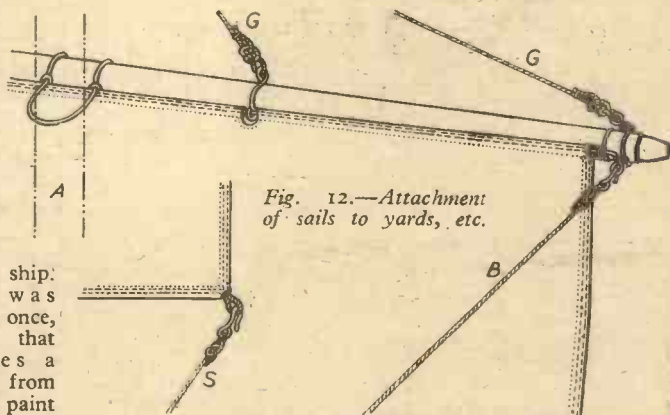

Fig. 12.—Attachment of sails to yards, etc.
**T**HE fore and main masts only are stepped; the mizzen can be all in one piece and the fore and main topmasts can be single lengths. All masts, lower and upper, mizzen and bowsprit, should be tapered slightly as shown in Fig. 3 (last month's instalment). The diameters at the lower ends should be such that they look just right to accord with the size of the model. If the 24in. model is being made, the diameter of the main mast at the foot should be  $\frac{5}{16}$ in. full, or  $\frac{11}{32}$ in. tapering to a full  $\frac{1}{4}$ in. The foremast can be  $\frac{5}{16}$ in. tapering to  $\frac{1}{4}$ in. and the mizzen  $\frac{5}{16}$ in. base, tapering to  $\frac{1}{4}$ in. The main topmast should be  $\frac{1}{4}$ in. tapering to  $\frac{1}{8}$ in., and the foretopmast, these figures base. The bowsprit should have a diameter at the butt of  $\frac{1}{4}$ in. full, and be reduced to  $\frac{1}{8}$ in. at the cuter end. The taper should be more rapid towards the end so that it is not uniform but results in a curve. This applies to all the yards, also; the taper commencing at their centres and curving towards the ends, where they are shaped as shown in Fig. 12.
Fig. 12 shows a portion of one of the sails, the yard lifts G.G., the mast A; the brace B; and the sheet S attached to the clue of the sail. All of these will be obvious except perhaps the method of attaching the sail to the yard. The sail is rectangular, is hemmed all round, and has a cord enclosed in the hem. What is not quite obvious, is that, at the top, the hem is just a little deeper than it is everywhere else. Where the inner yard lifts come, there is an eye formed in the wire around the yard, to which the lift is attached, and to avoid this loop there is a notch cut in the sail. There is another eye in another ring of wire around the yardarm outside of the sail; there are, therefore, four eyes throughout the length of the yard. These eyes are to take a steel wire which, being threaded through the top hem in the fabric and through all the eyes, will hold the sail up to the yard. The ends of the wire can be bent slightly downward and, if it is not too straight in its length,